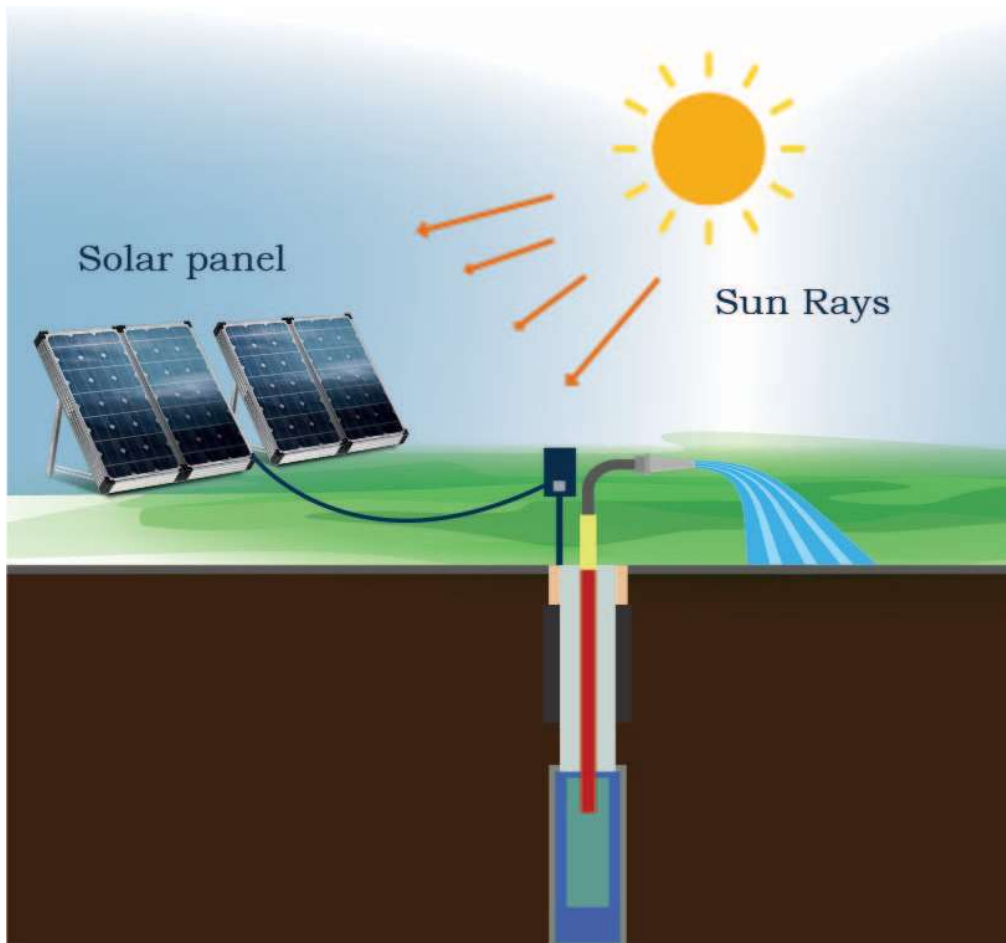

Fig. 1.14: Solar water pumping
A solar water pumping system is essentially an electrical pump system in which the electricity is provided by one or several Photo Voltaic (PV) panels. A typical solar-powered water pumping system consists of a solar panel array that powers an electric motor, which in turn powers a submersible pump or surface pump. Solar water pumping systems are beneficial in the agricultural and industrial sectors. Fig. 1.14 illustrates the typical solar water pumping system.